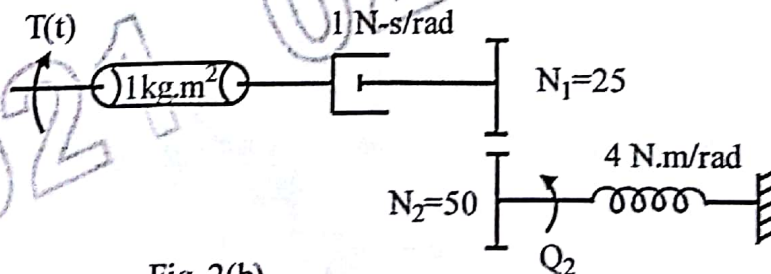

Fig 2(b)
- b) Determine Transfer function of rotational mechanical system shown in fig. 2 (b) 9